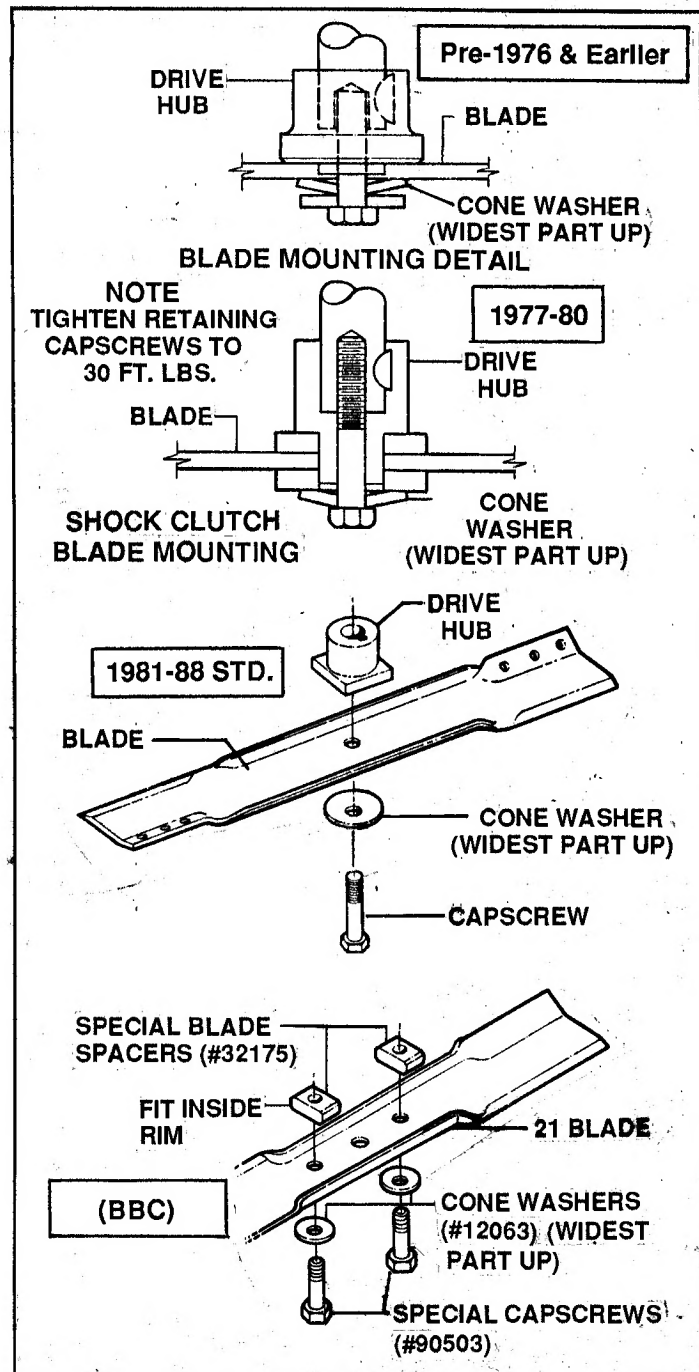

FIGURE 2.3
3. Remove retaining capscrews, washers, and separate blade from hub. See Figure 2.3.